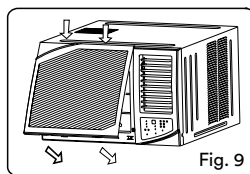

Fig. 9
2. Hang the front panel on the frame's buckle, then press the front panel into the frame's slot until you hear a click (See Fig 9).